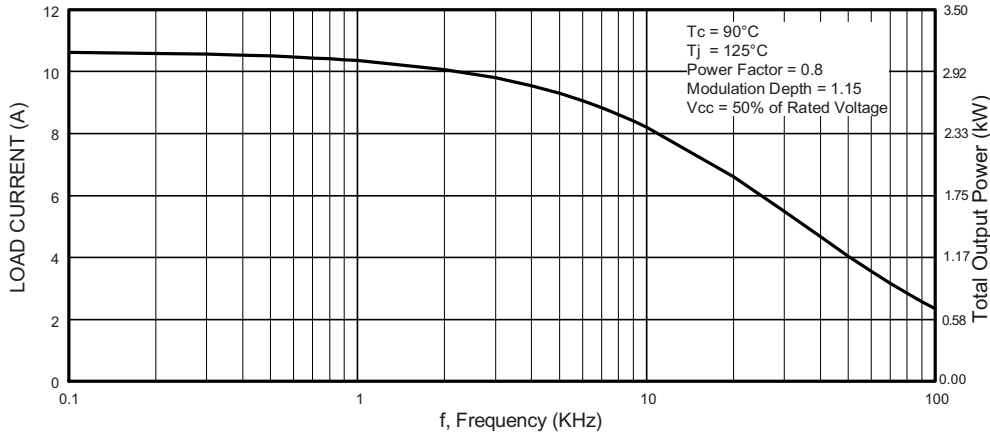

Fig. 1 - Typical Load Current vs. Frequency
| Modulation depth (see fig. 1) | 115 % |
- Short circuit rated ultrafast: optimized for high speed (see fig. 1 for current vs. frequency curve), and short circuit rated to 10 μs at 125 $^\circ\text{C}$, $V_{GE} = 15\text{ V}$